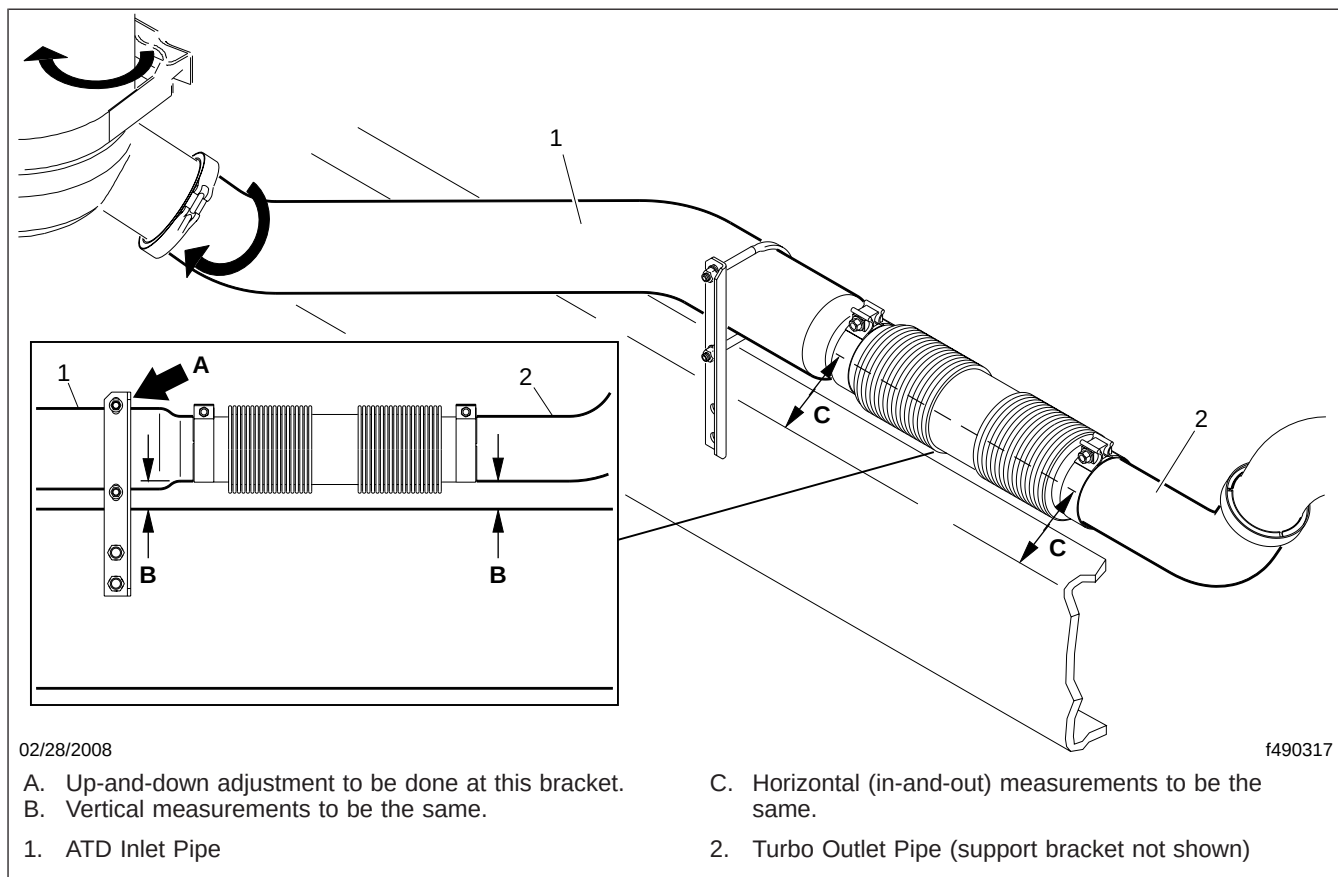

Fig. 2, Rotation and Adjustment Areas for Exhaust Pipe alignment (vertical ATD installation shown)
21. Install the new bellows on the ATD inlet pipe, with the clamp nuts on top and facing outboard (Fig. 2).